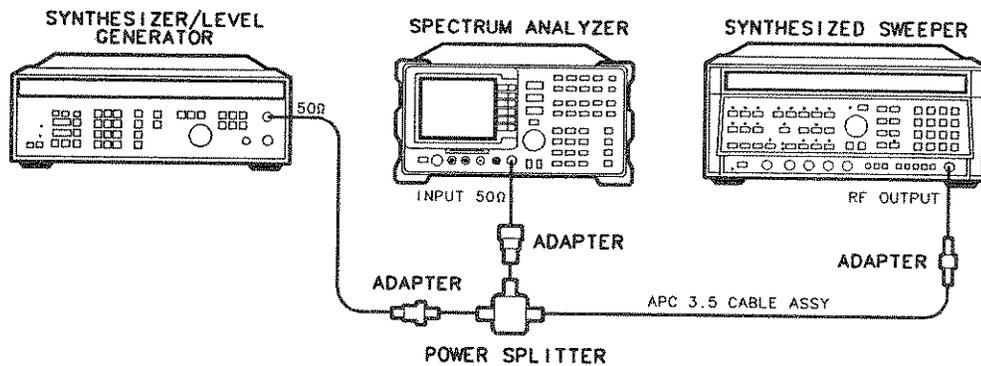

Figure 4-8. Frequency Span Accuracy Test Setup (Spans < 500 MHz)
- Connect the equipment as shown in Figure 4-8. Note that the power splitter is used as a combiner. *Option 026:* Omit the adapter and connect the splitter directly to the analyzer input.